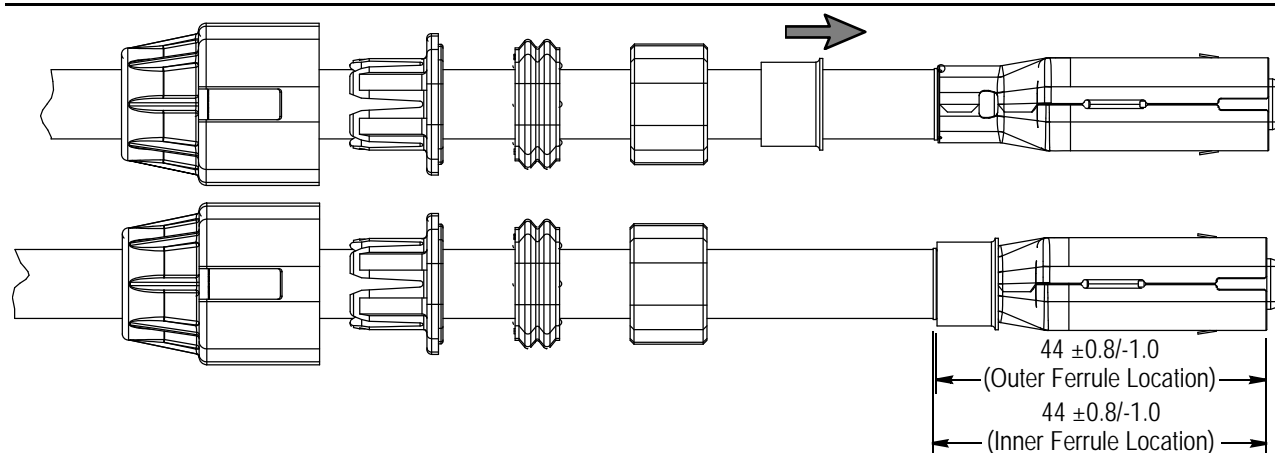

Figure 11
10. Slide the outer ferrule forward into position over the overlapping ends of the connector shields as shown in Figure 11.